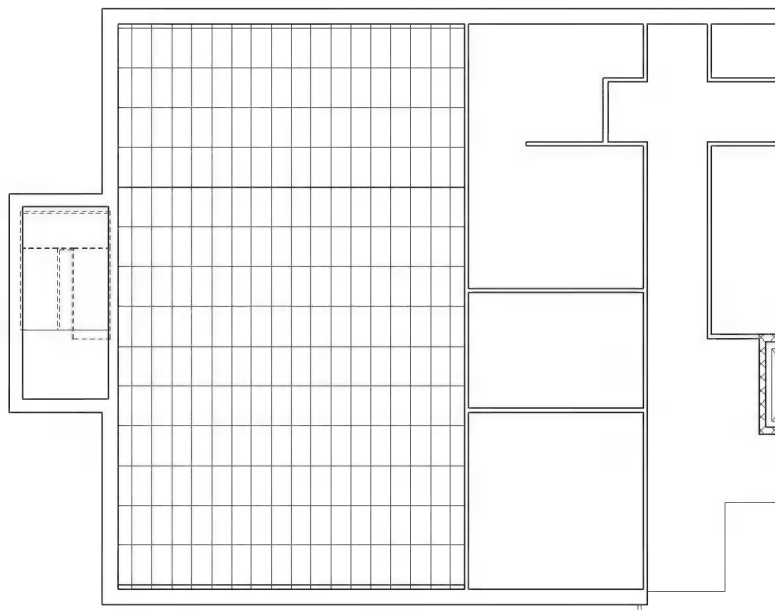

FIGURE 7-2.4 Level 1: Ceiling
7. Pick within the large room; Revit places a grid in the room (Figure 7-2.4).
When you place a ceiling grid, Revit centers the grid in the room. The general rule-of-thumb is you should try to avoid reducing the tile size by more than half at its perimeter. You can see in Figure 7-2.4 that the East and West sides look okay. However, the North and South sides are small slivers. You will adjust this next.